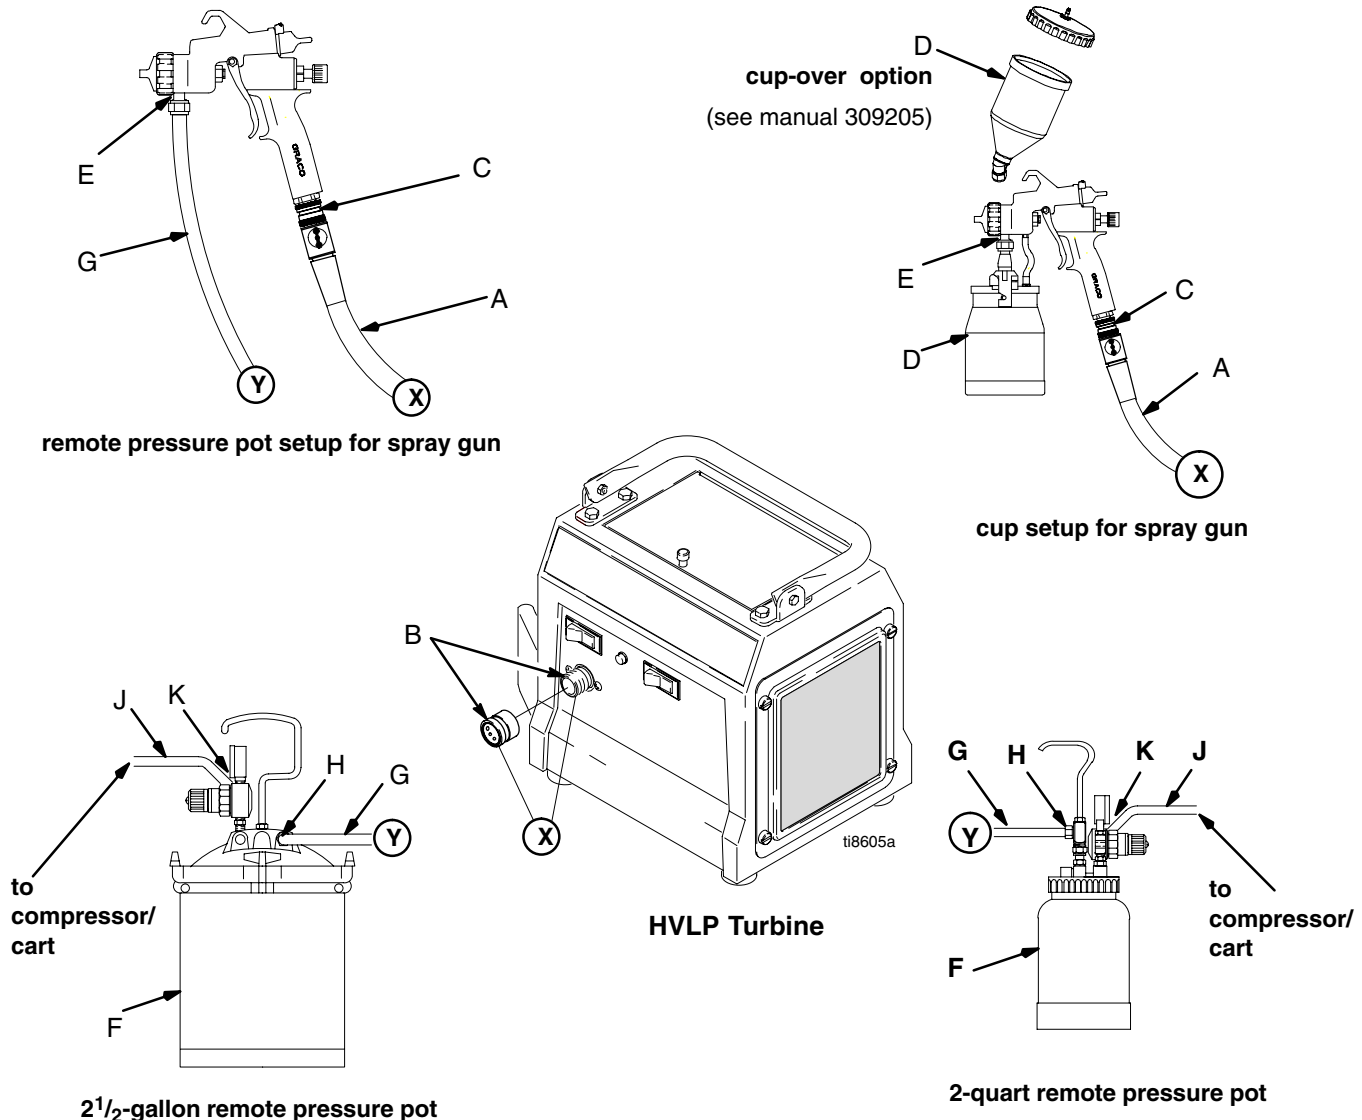

Fig. 4
HVLP Turbine Sprayers have a variety of user options. See Fig. 4.
See Fig. 4
- The circled letters in Fig. 4 indicate hose line connections.
1. Connect gun air supply hose (A) between turbine air outlet (B) and gun air inlet (C). Do not use wrench to tighten connections; hand tighten only. The HVLP 4900 turbine uses a quick-disconnect connector at outlet (B). A wrench is not required for hose connection.
2. If using a cup-over (D), rotate the fluid housing and connect the cup to the gun fluid inlet (E). See Manual 309283 for procedure.